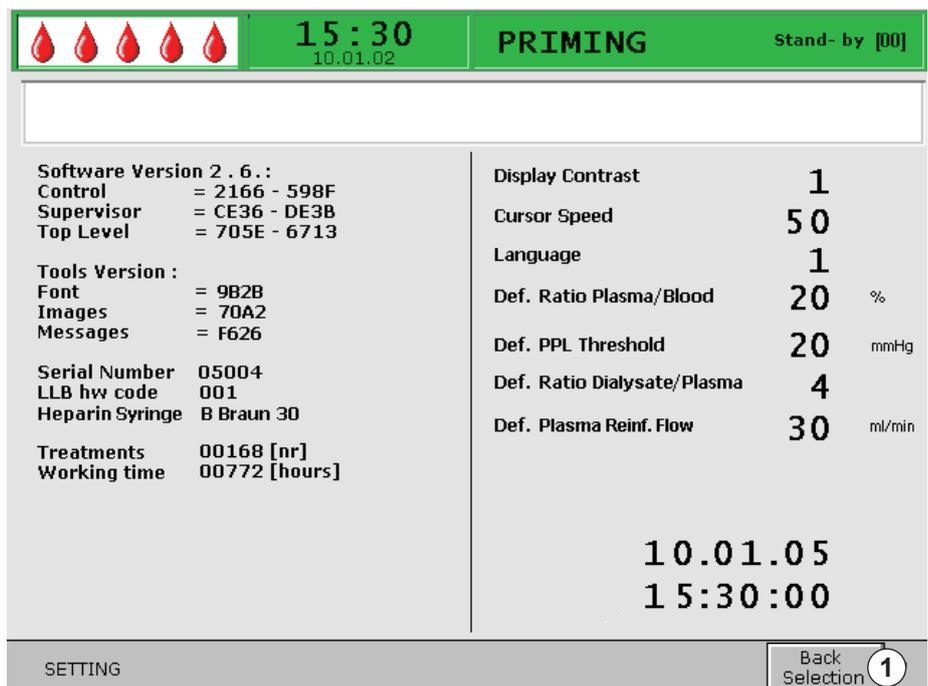

Fig. 4-8 Terminating the Settings screen
1. To terminate *Settings* screen, select *Back Selection* item (Fig. 4-8, ①) in menu bar and press *Enter* key.